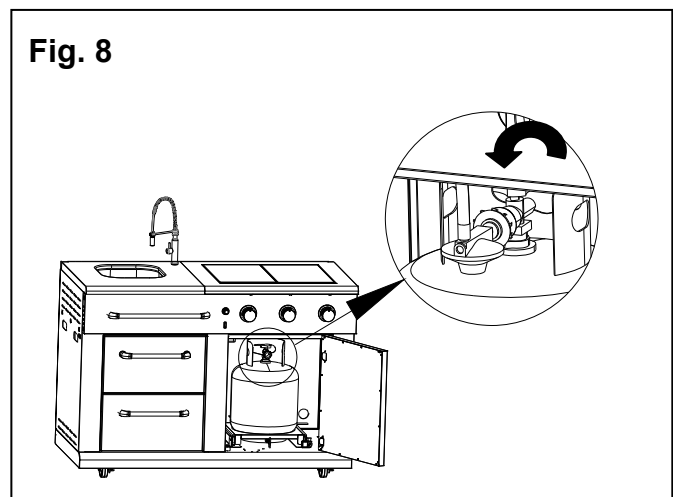

Fig. 8
2. Detach the hose and regulator assembly from the LP gas tank valve by turning the quick coupling nut counterclockwise. See Fig. 8.